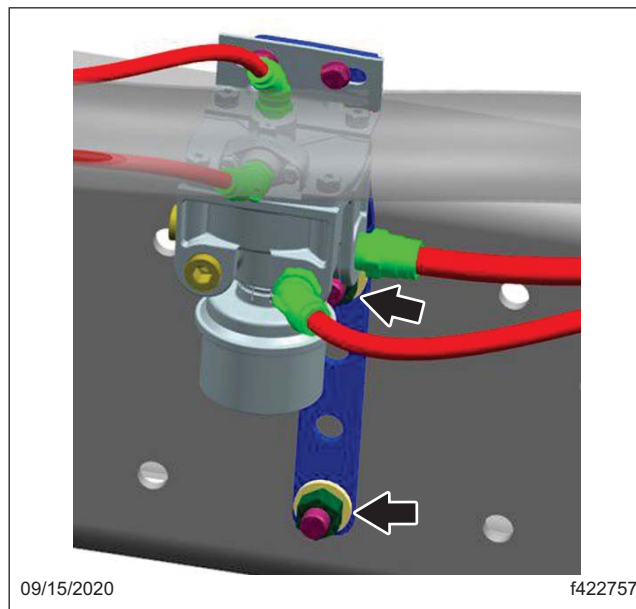

Fig. 19, Relay Assembly Attached with the Forward Fasteners
- 4.2 Install them through the relay assembly on the outside of the frame rail. See Fig. 19.